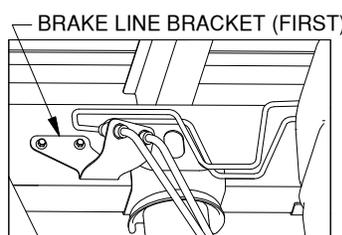
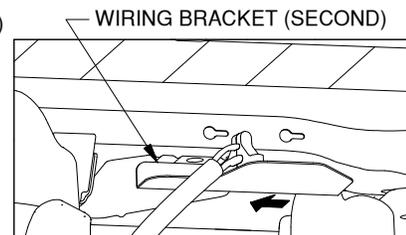

Figure A3.
Figure A4.
- 8. Un-attach brake and wiring brackets.** Two brackets are attached to the frame in locations that will interfere with the installation. Using a 10mm socket or wrench un-attach these brackets and allow to hang during installation. These brackets will be re-attached when the installation is complete. The first bracket holds two brake lines on the inside of the driver side frame just behind the rear axle, see Figure A3. The second bracket holds wiring and is attached to a rectangular frame cross member in front of and above the differential. Loosen the connection and slide the bracket to the driver side and unhook from frame. Allow to hang, see Figure A4.